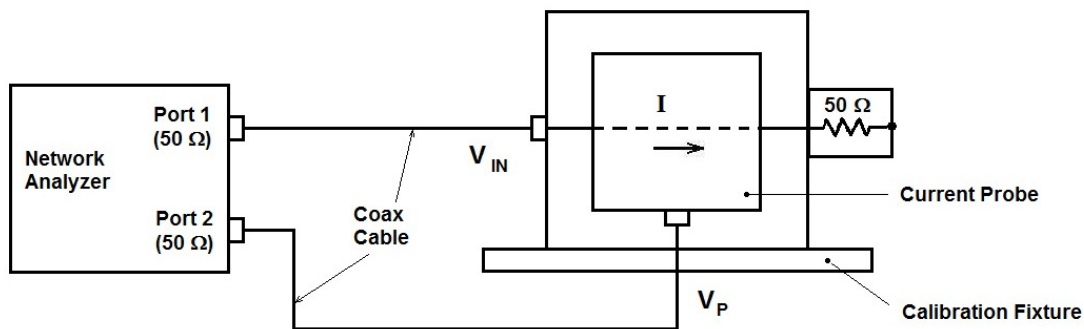

Figure 1 - Basic Setup for Calibration of a Current Probe
Figure 1 shows a side view of a typical calibration setup. The network analyzer drives one side of the calibration fixture and the other side of the fixture is terminated with a $50\ \Omega$ load. The network analyzer works in terms of power, but it is more convenient to think of the corresponding voltages since it is a $50\ \Omega$ system. The network analyzer will measure the ratio of the voltage appearing at the output of the Current Probe (V_P) to the voltage driving the calibration fixture (V_{in}) i.e. $\frac{V_P}{V_{in}}$. If the network analyzer is working in S parameters, this would be a S_{21} measurement. A similar calibration could be executed using a signal generator and a receiver instead of a network analyzer.
In Figure 1, Z_t is $\frac{V_p}{I}$. To calculate current (I), Ohm's Law is used wherein $I = \frac{V_{in}}{50 \Omega}$. So Z_t is therefore:
A common way a Current Probe is used is shown in Figure 1. It is desired to measure the current flowing on the wire or cable bundle that the probe is placed around. The voltage out of the Current Probe resulting from the current I flowing on the wire is measured on a receiver having a $50\ \Omega$ input impedance. Note this $50\ \Omega$ input impedance is necessary to match that used in the Current Probe calibration discussed above.